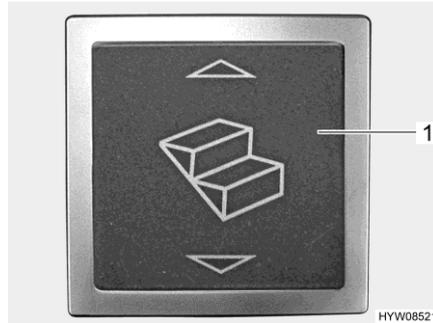

Fig. 6 Rocker switch for entrance step (entrance area)
- Press the rocker switch (Fig. 6,1) situated in the entrance area.